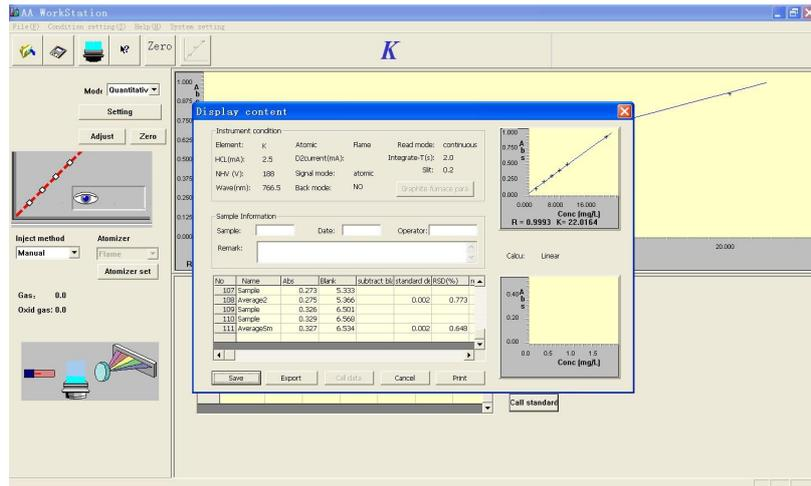

Figure 4-32
b. The "Display information" dialog will appear as shown in Figure 4-32. The dialog displays the instrument conditions you have set.